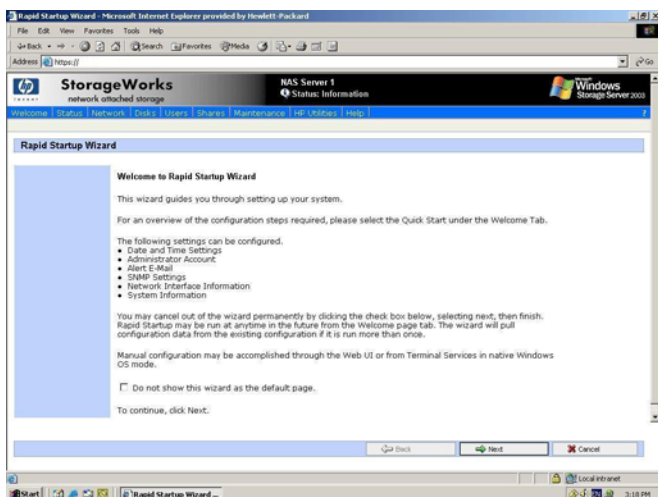

Figure 1 Rapid Startup Wizard window
4. Log into the WebUI. This launches the WebUI configuration application (Rapid Startup) on the target HP ProLiant storage server, as shown in Figure 1.
5. Open Internet Explorer to launch the WebUI configuration application (Rapid Startup) on the target storage server, as shown in Figure 1. If the WebUI does not launch, connect to the *Local Host* and log into the WebUI.
Ensure that an Internet Explorer window is open and the WebUI is at the Rapid Startup Wizard, as shown in Figure 1.